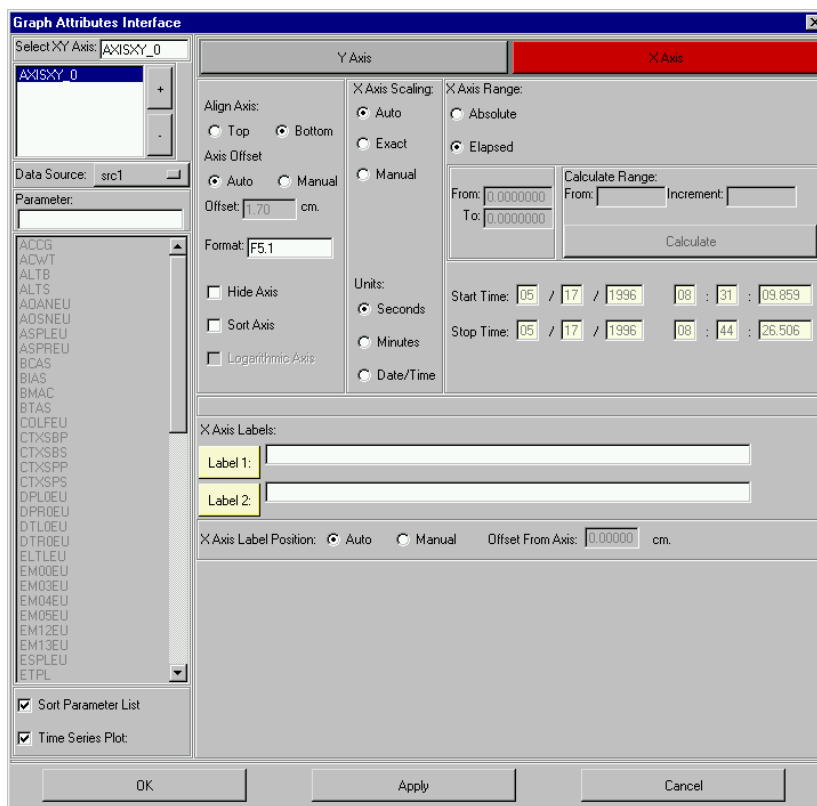

Figure 1-15 Graph Attributes dialog box with X Axis tab activated
- Step 6** Click on the X Axis tab on the far upper right of the Graph Attributes Interface. Notice that the list of parameters is grayed out. Click on the Time Series Plot box near the bottom left of the interface. This option determines the nature of the X Axis data. The default is to plot a graph object in a Time Series mode. By clicking on the Time Series Plot box, you have just enabled the list of parameters to put TS-WAVE into the X-Y plot mode. Select **src3** from the Data Source drop-down menu, then select the parameter **ALTB**, and click **APPLY** to update the graph. *Figure 1-15* displays the Graph Attributes Interface dialog box with the X Axis tab activated.